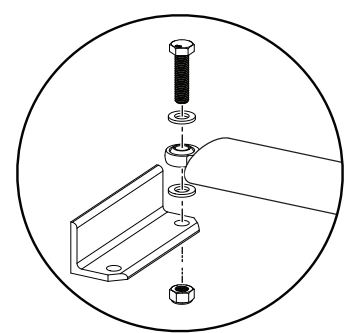

Figure 14. Gate Bracket Hardware
10. Clamp the gate bracket at Xg and the marked height (H).
11. Connect the arm assembly to the gate bracket (Figure 14).